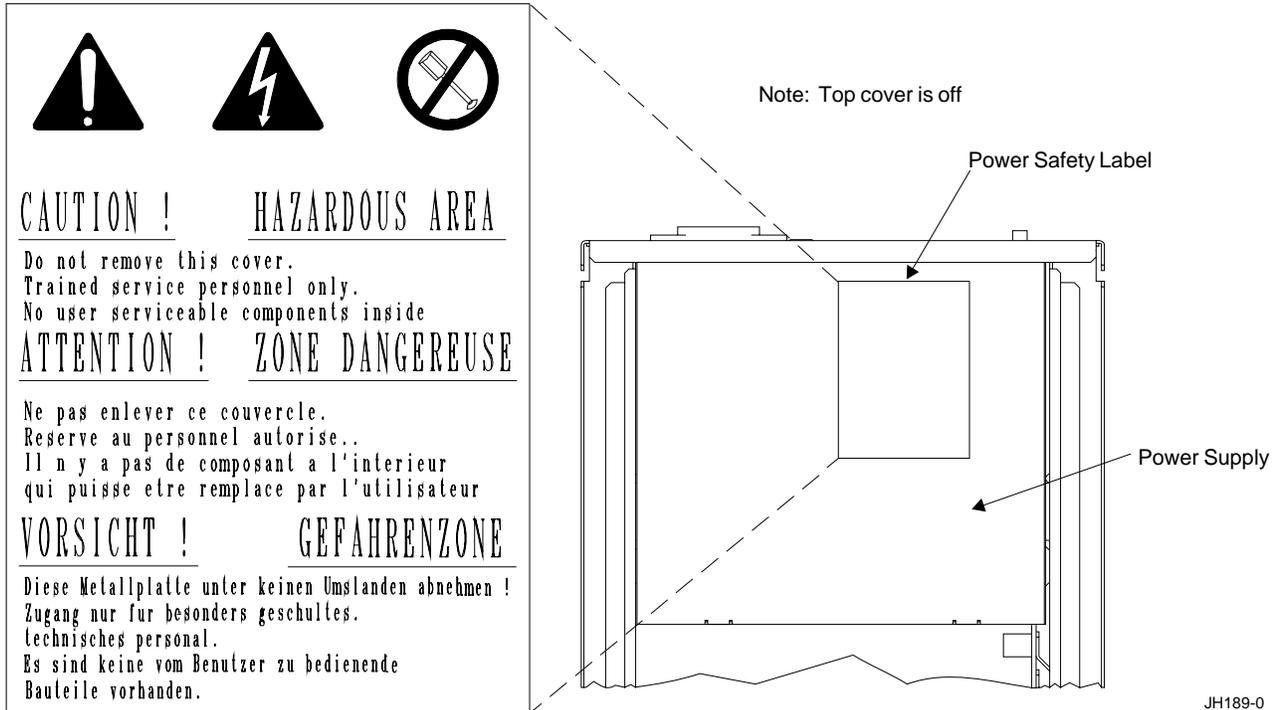

Figure 4-5. Power Supply Label (Top View)
- 2 Verify that the power supply label is installed on the power supply. See Figure 4-5.